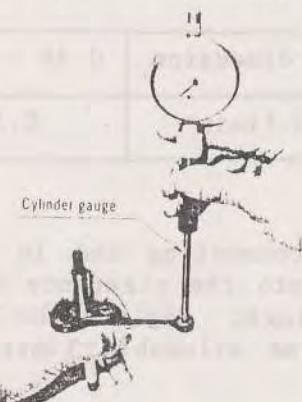
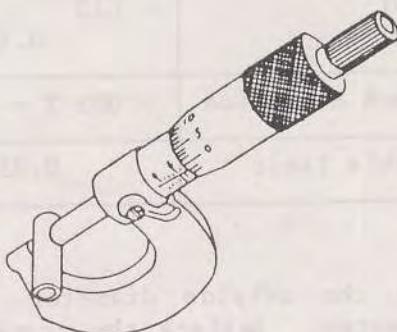

Fig. 7
Fig. 8
- (4) Clearance between hole in connecting rod small end and piston pin (Fig. 7, Fig. 8)